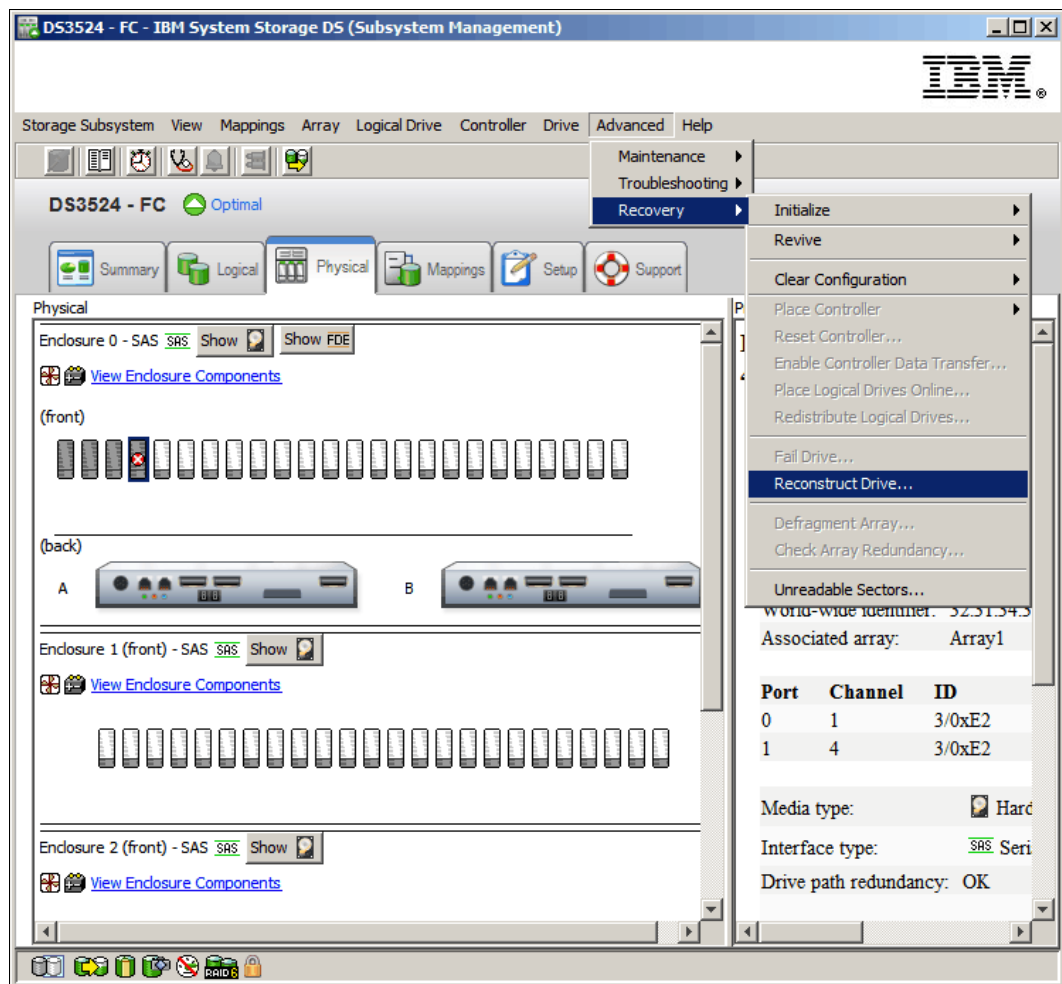

Figure 14-145 Reconstruct Drive
2. Click **Advanced** → **Recovery** → **Reconstruct Drive** as shown in Figure 14-145.